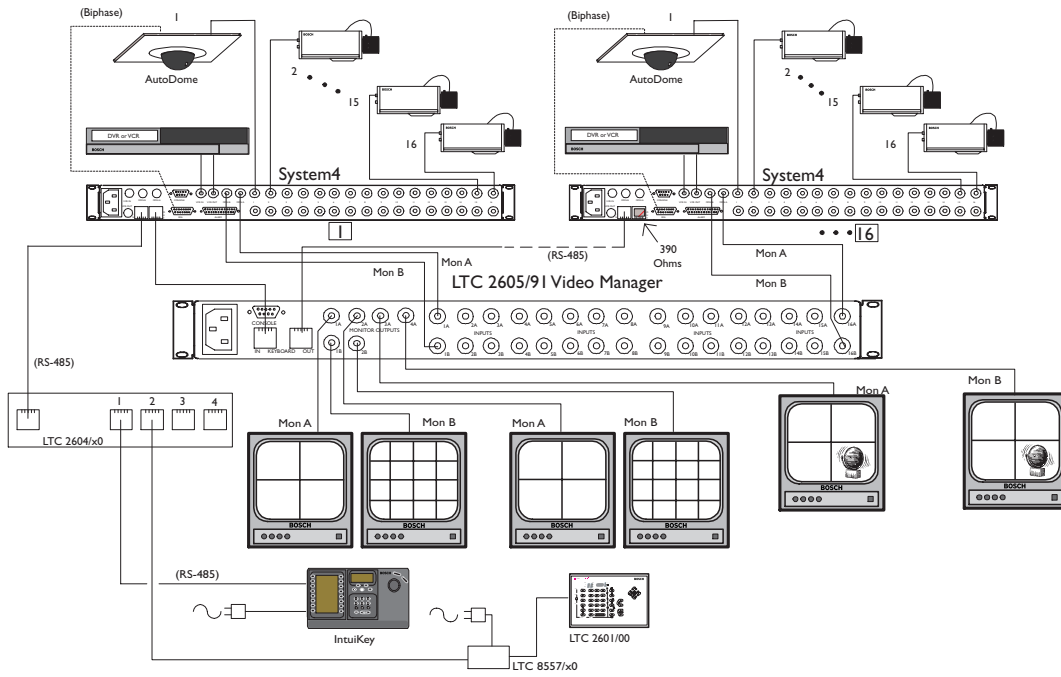

Figure 3 – Video Manager with System4 Multiplexers, an IntuiKey Keyboard, and a LTC 2601/00 Keyboard, Including Alarm Monitor Pair
- Two Keyboard Configuration using LTC 2604 Keyboard Expander (Reference Figures 3 and 4 in Section 4: Installation Diagram): The video from Monitors A and B of the device controlled by the first keyboard is displayed on outputs 1A and 1B of the Video Manager, respectively.
Functional Notes for Figures 3 & 4: